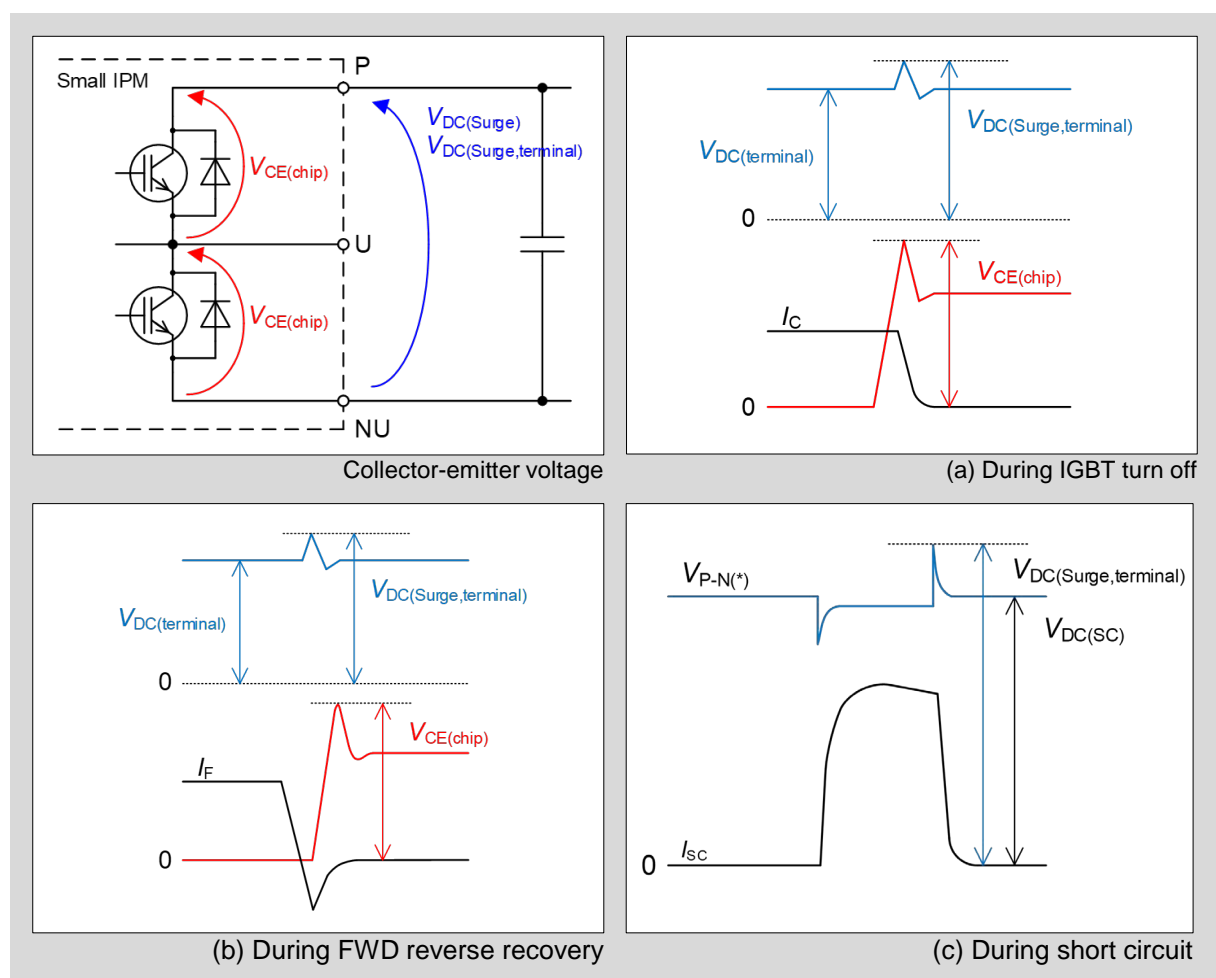

Fig.1-7 Waveforms and Collector-Emitter voltage during IGBT turn-off, FWD reverse recovery, and short-circuit
- Fig.1-7 shows the waveforms during short-circuit, IGBT turn-off and FWD reverse recovery. Since $V_{DC(Surge,terminal)}$ is different in each situation, it is necessary to set $V_{DC(terminal)}$ considering these situations.